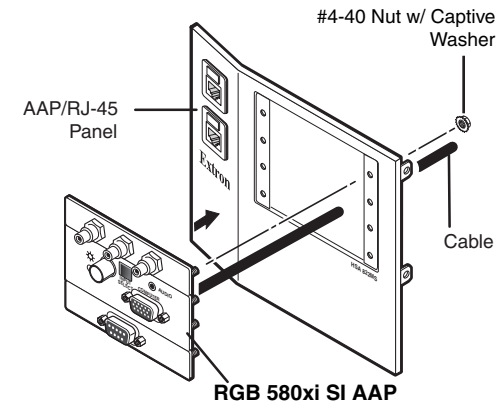

Figure 2-13 — Mounting an AAP on the AAP/RJ-45 panel
3. Insert each of the AAP's screws through the holes in the AAP opening of the HSA AAP/RJ-45 panel. Secure each AAP to the panel with the provided captive washers and #4-40 nuts (figure 2-13).